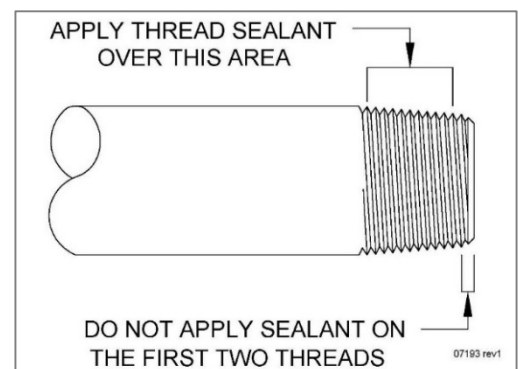

Figure 10 – Applying Thread Sealant
Assemble fuel filter as shown in Figure 33. Ensure to use thread sealant as described in Figure 10.
Apply thread sealant to the nipple threads as illustrated in Figure 10 to minimize fuel line contamination. Install the regulator subassembly to the safety shut-off valve through the opening on the floor of the instrumentation enclosure.
2. Apply thread sealant to the fuel line threads as illustrated in Figure 10 to minimize fuel line contamination.